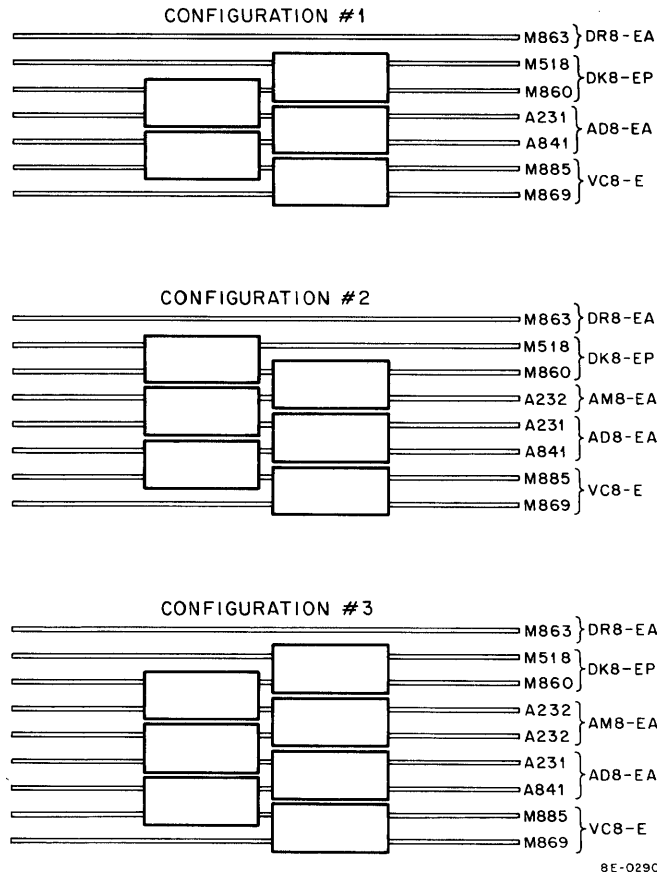

Figure 2-6 Edge Connector Installation (top view)
- c. Install edge connectors as shown in Figure 2-6.
- b. Install edge connectors as shown in Figure 2-6.
- d. Install edge connectors as shown in Figure 2-6.
| 18   | Installation of DK8-EP or DK8-ES: <ol style="list-style-type: none"> <li>a. Install M860 and M518 in the OMNIBUS. Refer to Table 2-21 for module positions.</li> <li>b. Install edge connectors as shown in Figure 2-6 for DK8-ES or DK8-EP.</li> <li>c. If this is a DK8-ES, install DK8-EF front panel and connect front panel cable to M518 module.</li> </ol> |